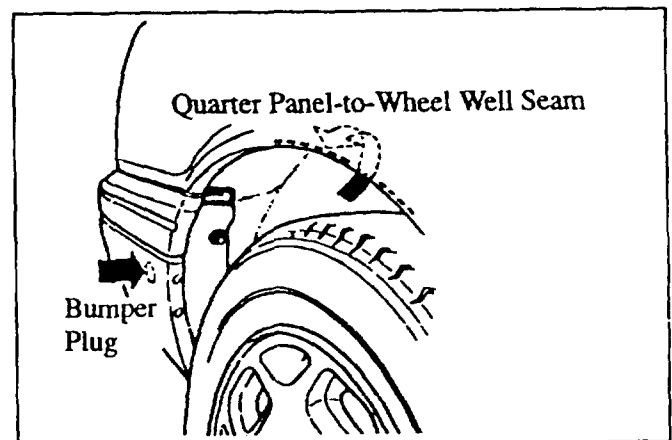

Figure 26: Bumper Plug and Wheel Test Area
2. Check for any leaks at the grommet and plug between the quarter panel and bumper. Examine seams for missing sealer or pin holes. Seal any suspected defects. **Figures 26 and 27.**